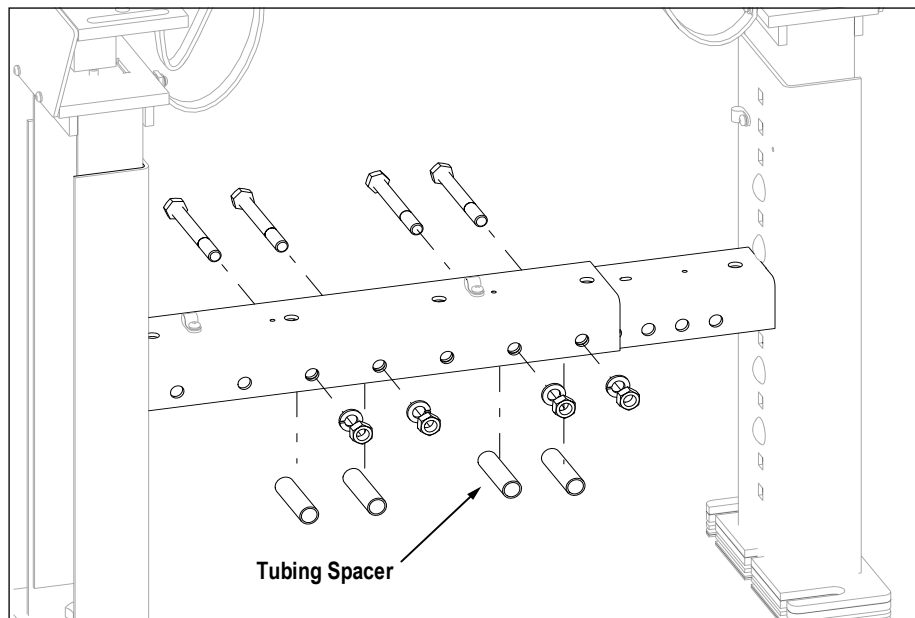

Figure 2-2. Width Bolt and Tubing Spacer Installation
3. Remove the bolts from the weigh stand mounts. See Figure 2-2.
! **IMPORTANT:** Ensure bolts are placed at the overlapping left and right extremes with the others equally between. Each weigh stand must have 4 bolts installed in the width channel. See Figure 2-2.